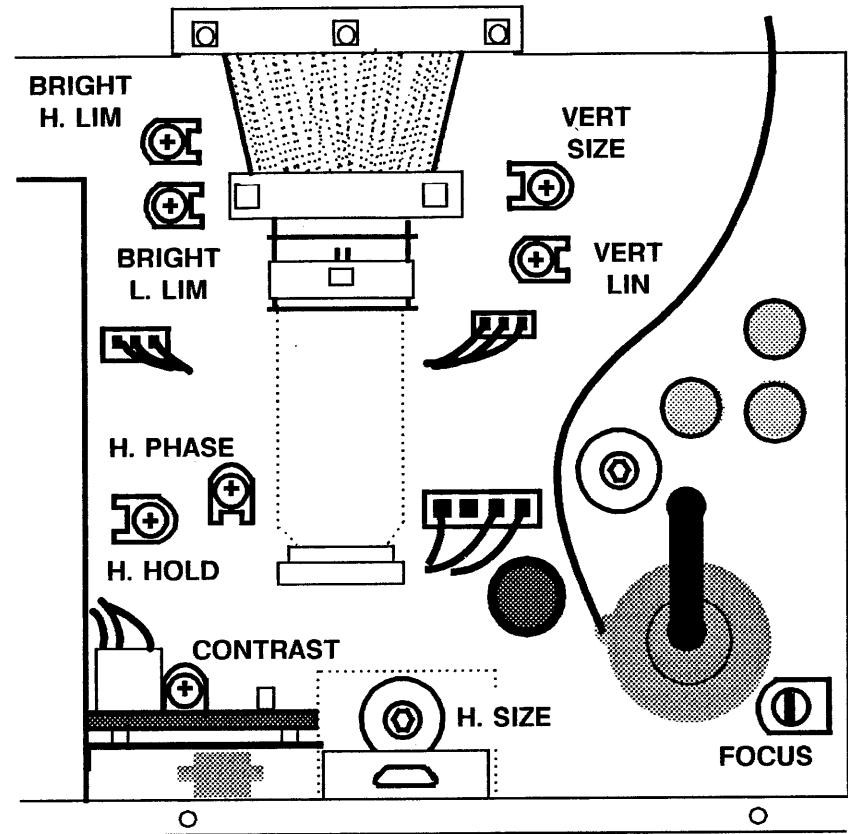

Figure 21. 15 Inch Display PWB Adjustment Locations
- f. With the operator brightness control set to minimum brightness, adjust **BRIGHT L. LIM** to the specifications in step b (Figure 21).
- g. With the operator brightness control set to maximum brightness, adjust **BRIGHT H. LIM** to the specifications in step d (Figure 21).
- b. Adjust the **CONTRAST** (R505) pot for optimum viewing (Figure 21).
- e. Adjust the **FOCUS** pot (R707) for optimum viewing (Figure 21).
- c. Adjust the **VERT LIN** control for approximately the same size characters in the top and bottom rows (Figure 21).
- g. Center the raster within the marks by first adjusting **H. PHASE** to remove any vertical white line at the left or right edge of the raster (Figure 21). Go to to step h.
- c. Adjust the **H SIZE** coil to obtain correct display width (Figure 21).
- c. Adjust **VERT SIZE** to obtain correct display height (Figure 21).